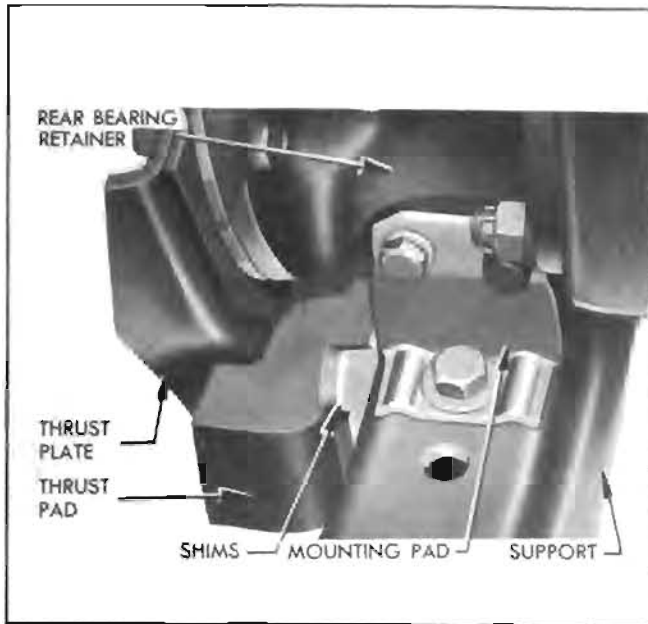

Figure 4-28—Transmission Mounting Pad, Thrust Pad and Shims
6. With engine and transmission resting freely and normally on mountings, install sufficient shims between the thrust pad and transmission support to fill the existing space. Insert shims from above with tabs on right side, then install the bolt plate and three nuts which attach thrust pad to support. See figure 4-28.